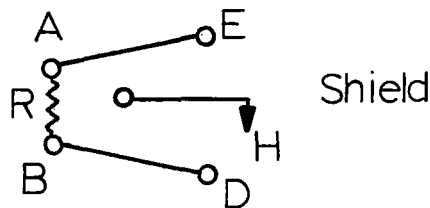

Figure 3.7-Programming Voltage, J1
- a) Connect a precision known resistor R (any value between 50K-250K) to the pins AE and BD of the Sensor A input plug J1 (Amphenol type 126-217 or equivalent) in place of the sensor as shown in Fig. 3.7, and turn the sensor selector switch on the front panel to Manual A position.